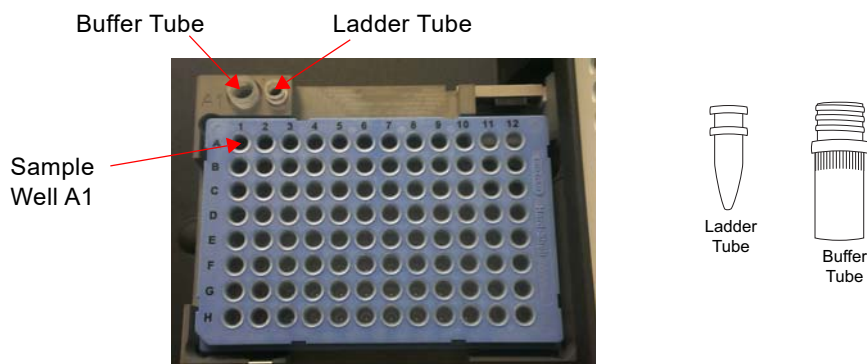

Figure 1. Locations of the Buffer Tube and Ladder Tube in the GX Touch/GXII Touch instrument
- 11 Insert the Ladder Tube into the ladder slot on the LabChip GX Touch/GXII Touch instrument (see Figure 1 on page 9).
- 2 Insert the Buffer Tube into the buffer slot on the LabChip GX Touch/GXII Touch instrument (see Figure 1).